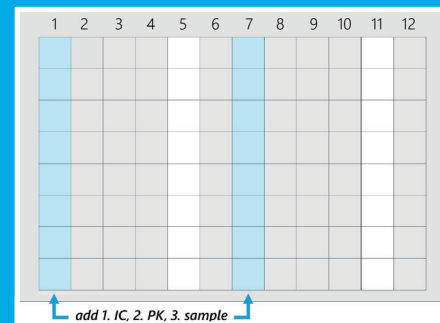

Fig. 1
5. Add following reagents to the same well (lysis buffer, blue) (Fig. 1)
- 20 μ L Proteinase K (PK)